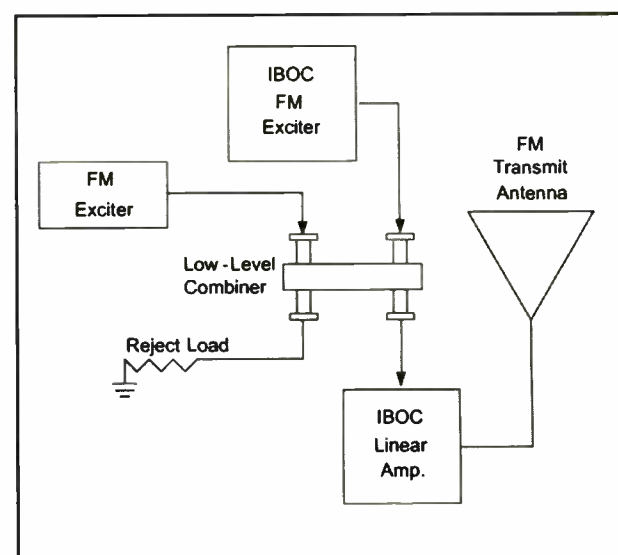

Fig. 2c: FM HD Radio Low-Level, Common Amplification
**Low-Level Combining:** Low-level combining or common amplification is depicted in Fig. 2c. This implementation involves the combination of the output of an analog FM exciter with the output of an HD Radio exciter.